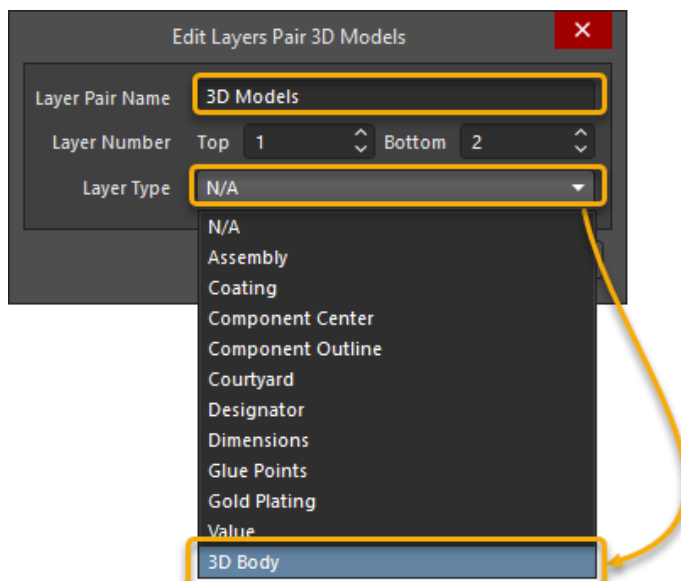

Figure 31. Configure Mechanical Layer Pairs
46. Enter the information shown in Figure 31. Change *Layer Pair Name* to **3D Models**, and from the *Layer Type* drop down list select **3D Body**.